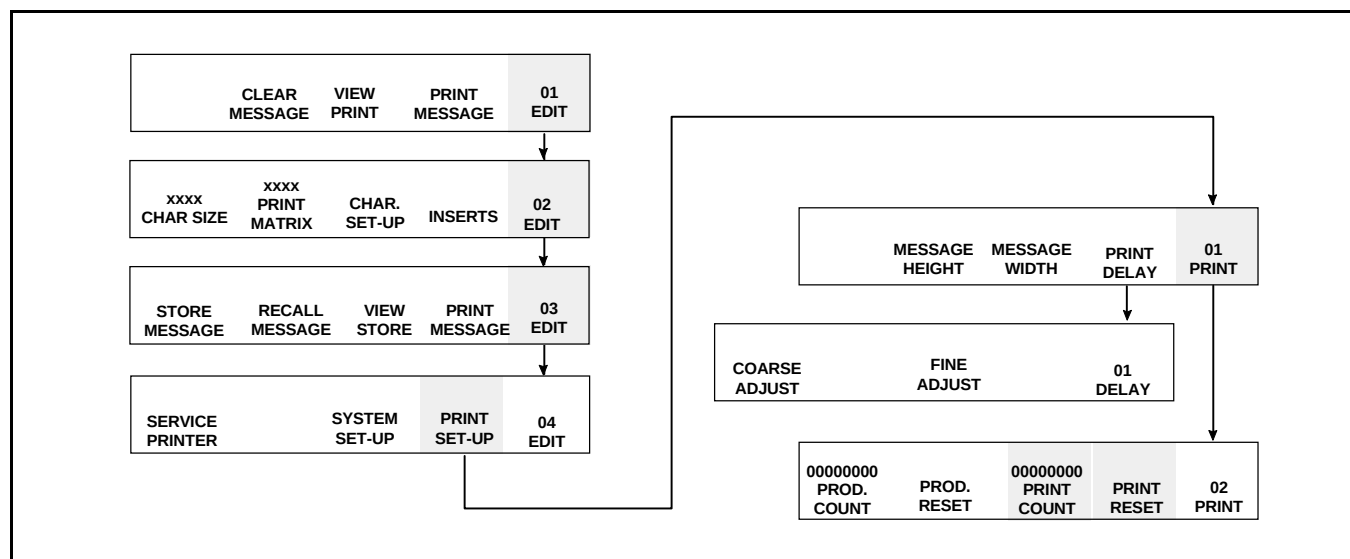

Figure 7-2. Accessing Frames <PRINT RESET> and <PRINT COUNT>
1. Begin in Frame <02 PRINT>. Refer to Figure 7-2.